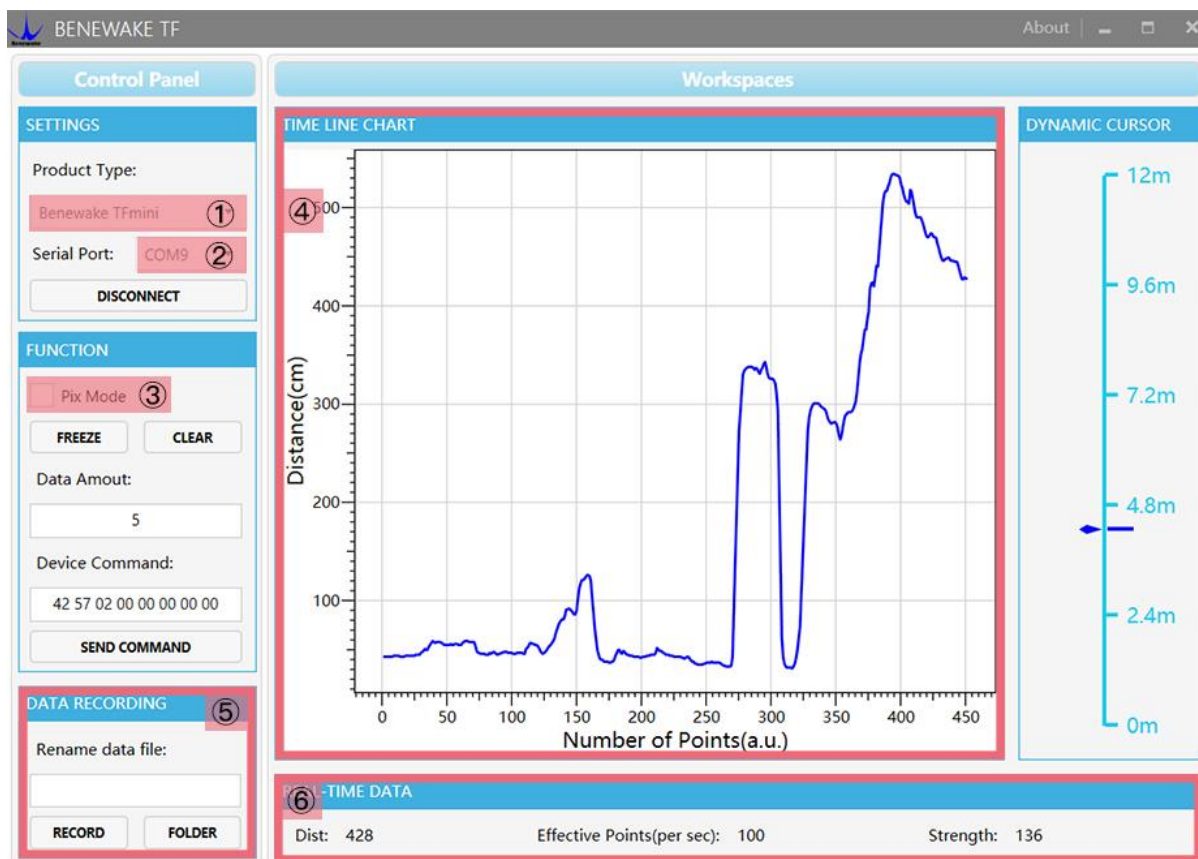

Figure 3: PC software Interface and Display
③ Connection to the Test software and data output
④ Open the PC software and select “① TF02-Pro” and select automatically recognized occupied serial
port (here it is “② COM9”), as shown in Figure 3.
- ⑤ Then click “CONNECT”. Upon successful connection, The continuous images of the output data will be displayed in area “④ TIME LINE CHART” on the right. Besides, the real-time data of the Current measure distance (Dist), effective data points per second (Effective Points) and signal strength (Strength) will be displayed in area “⑥ REAL TIME DATA” below.